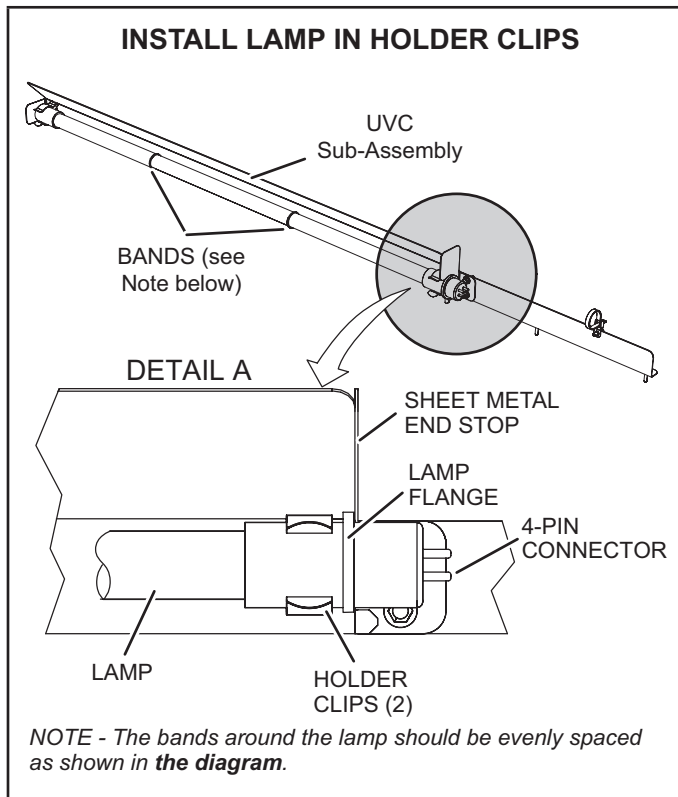

FIGURE 45
- 7 - Wear cotton gloves or use a cotton cloth when handling the new lamp. Place the new lamp in the holder clips of the UVC assembly. Verify that the lamp flange at the connector end is sandwiched between the lamp holder clip and the sheet-metal end stop (see FIGURE 45).